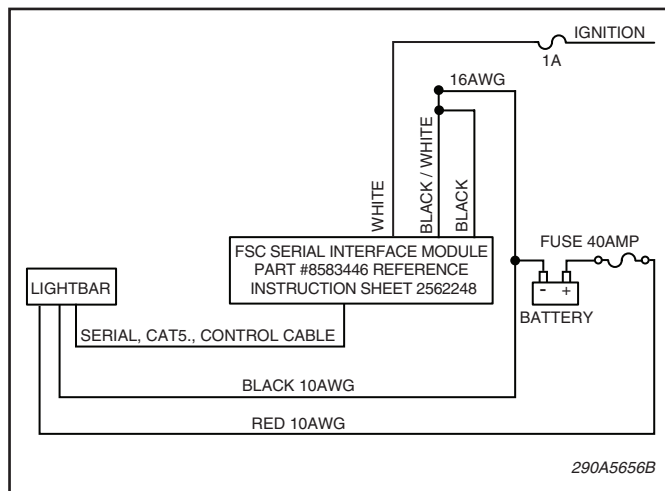

Figure 1.
B. See figure 1. Ensure that the lines are adequately fused as shown. From the lightbar, route the CAT5 control cable into the vehicle's cab or trunk near the eventual location of the compatible Federal Signal Serial control head or FSC #8583446 Interface Module. An input cable is also provided with the FSC #8583446 Serial Interface Module.